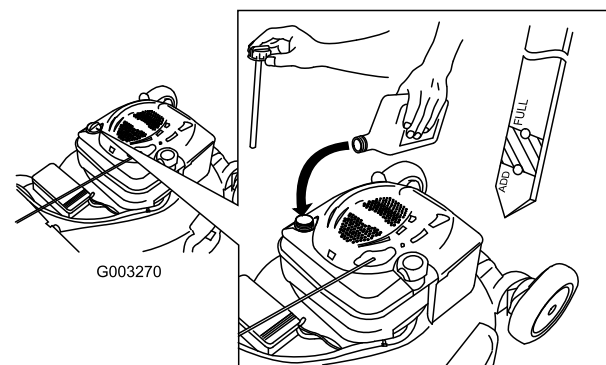

Figure 30
4. **Slowly** pour oil into the oil fill tube until the oil level reaches the Full line on the dipstick (Figure 30). **Do not overfill.** (Max. fill: 20 oz. (0.59 l), type: SAE 30 detergent oil with an API service classification of SF, SG, SH, SJ, SL, or higher.)